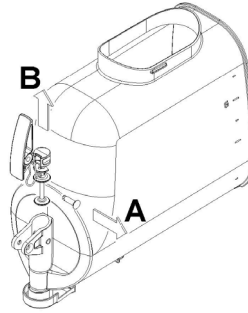

figure 12
- 5** Disassemble the tap by following the order given (see figure 12).